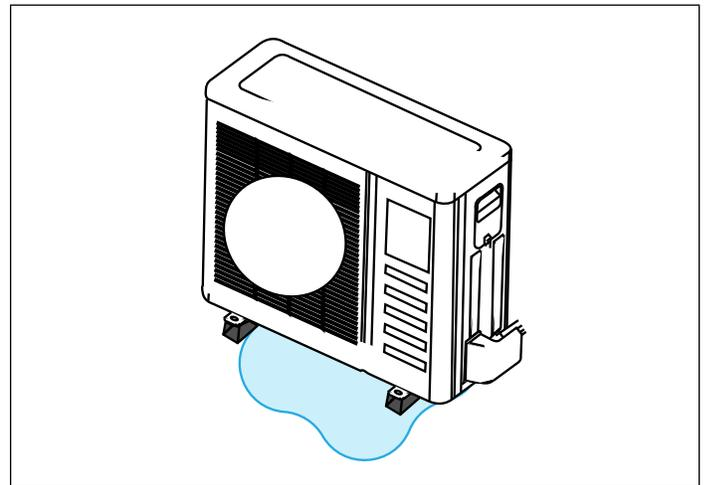

Figure 16. Avoid Defrost Water Ice Hazard
- Carefully consider how to manage defrost water disposal to prevent ice from blocking walkways or creating a safety hazard near the outdoor unit as illustrated in “Figure 16. Avoid Defrost Water Ice Hazard”